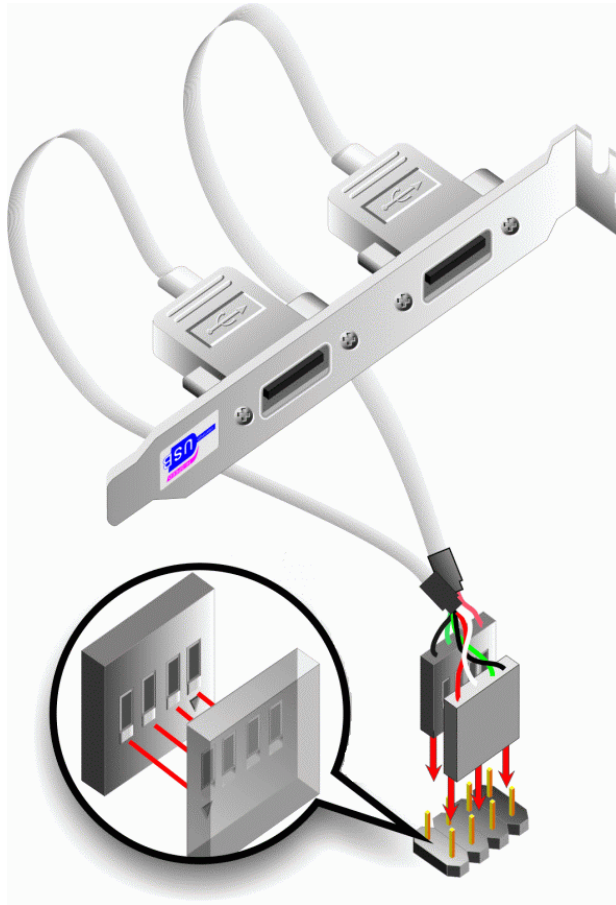

Figure 5-12: Dual USB Cable Connection
Step 3: Insert the cable connectors. Once the cable connectors are properly aligned with the USB connectors on the 3308490, connect the cable connectors to the on-board connectors. See **Figure 5-12**.